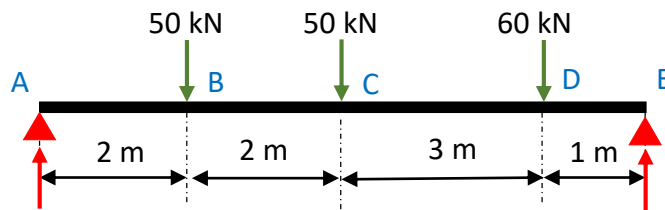

Figure Q4
The flexural stiffness (EI) of the loaded beam shown in Figure Q4 is 300 MPa. Calculate,